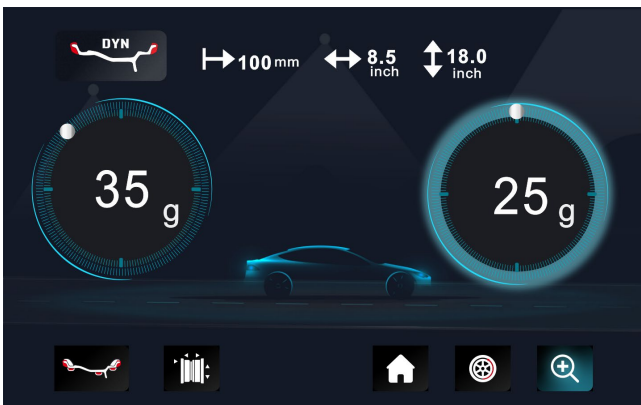

Fig.3
4.1.6. Press , until the right LED lit up full, clip weight on 12 o'clock position (Fig.3)